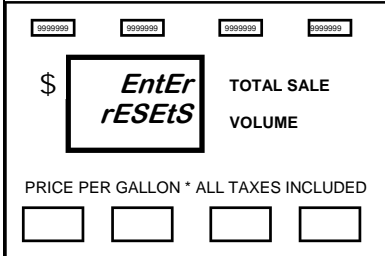

Figure 26.6
3. To reset the totals, press the 0 button. The screen will flash with the message in Figure 26.6.